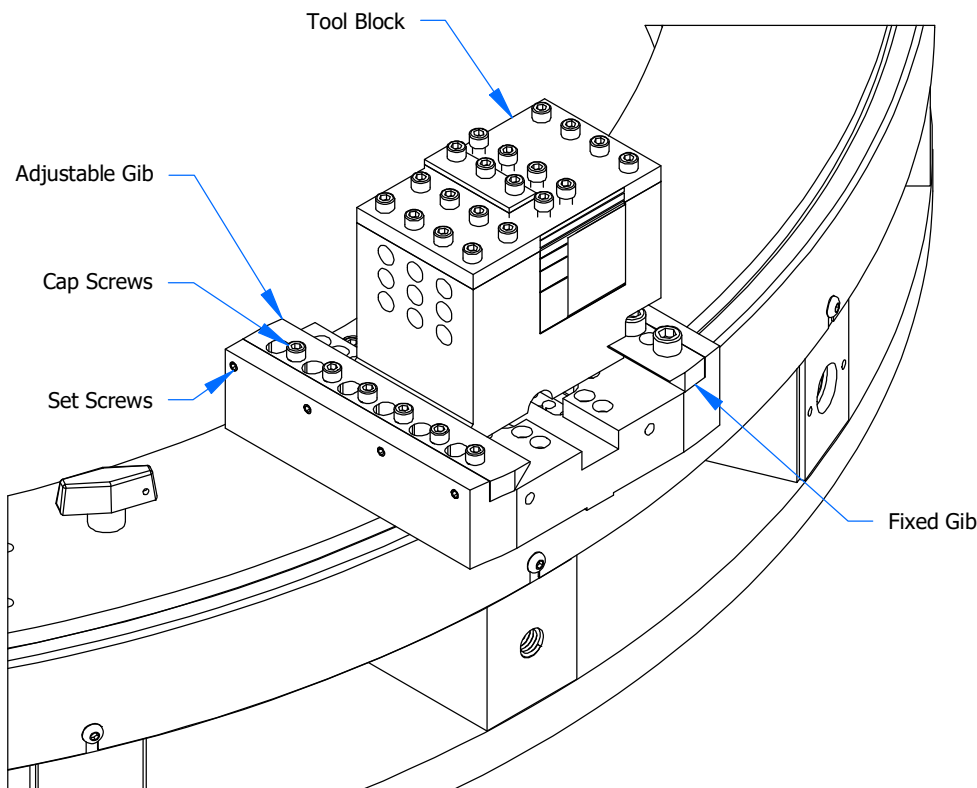

Figure 3-2 - Adjust Gibs
2. Place the tool block only (without feed screw assembly) into the slide. Loosen cap screws on top of the adjustable gib. Turn the four set screws to move the adjustable gib. Move the tool block in the slide. There should be no slop and no binding. Continue to adjust set screws as necessary so that the tool block slides smoothly. The tool block must move easily with slight resistance and it must be the same along the entire length of the slide. It may be necessary to move the tool block by tapping with a deadblow hammer (included in the hand tool kit). Adjust set screws as necessary. When satisfied, tighten the cap screws on top of the adjustable gib. See Figure 3-2.